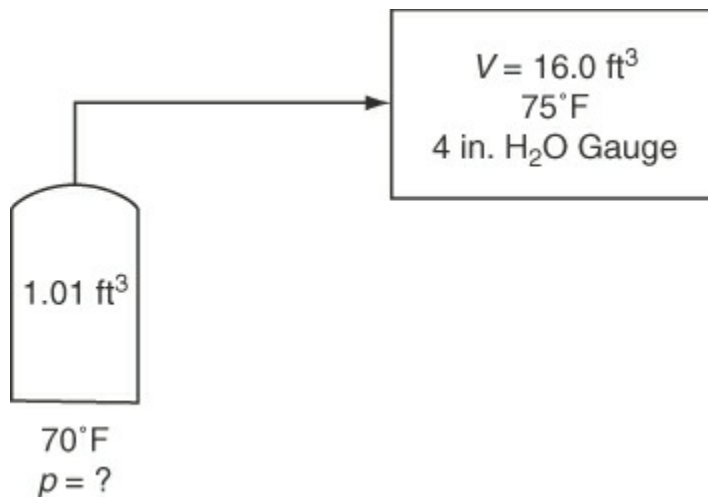

Figure P6.1.7
- ****6.1.7** An oxygen cylinder used as a standby source of oxygen contains O_2 at 70°F . To calibrate the gauge on the O_2 cylinder, which has a volume of 1.01 ft^3 , all of the oxygen, initially at 70°F , is released into an evacuated tank of known volume (15.0 ft^3). At equilibrium, the gas pressure was measured as 4 in. H_2O gauge and the gas temperature in both cylinders was 75°F . See Figure P6.1.7. The barometer read 29.99 in. Hg.